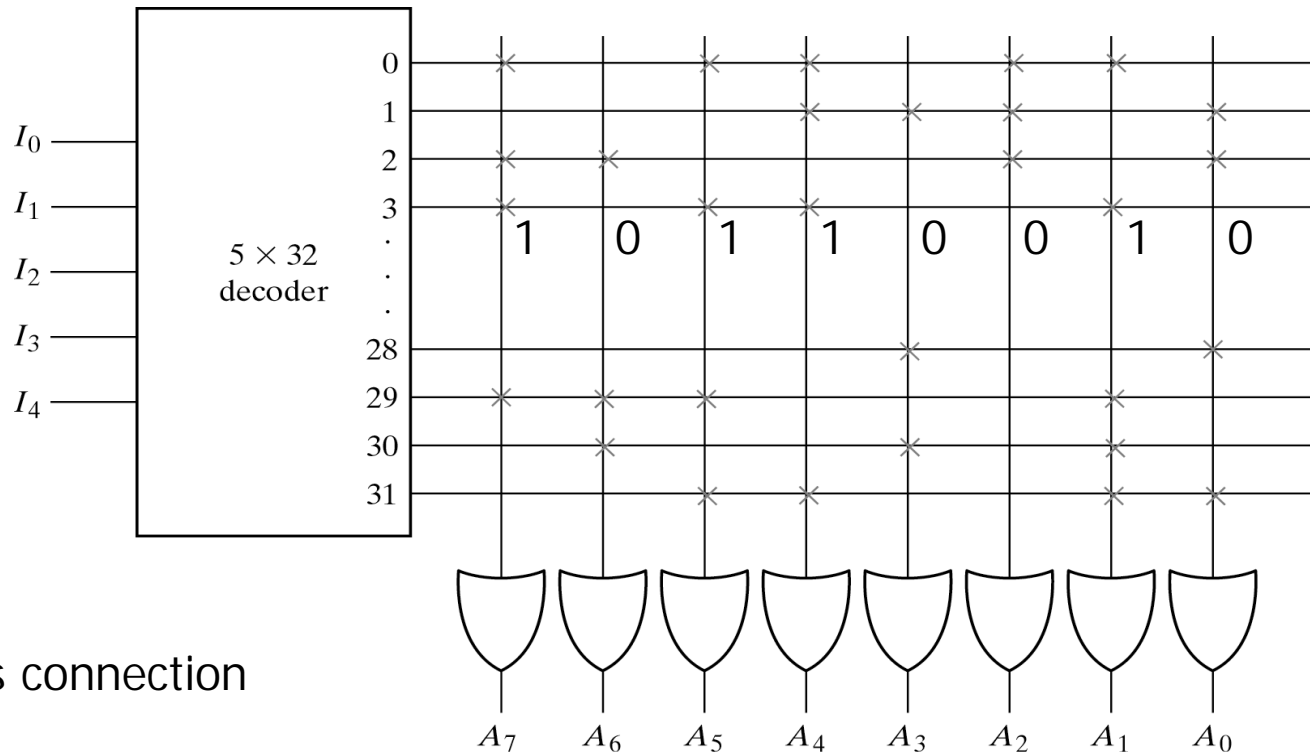

Fig. 7-11 Programming the ROM According to Table 7-3
- Fig. 7-11 may be considered as a combinational circuit with eight outputs, each being a function of the five input variables.